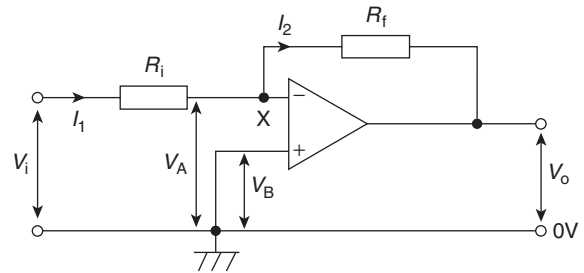
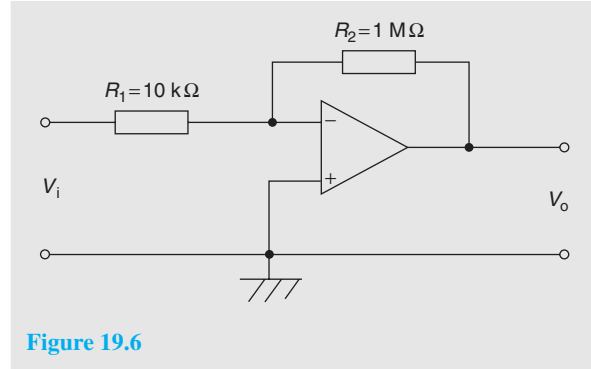

Figure 19.5
Figure 19.6
Operational amplifiers nearly always use **negative feedback**, obtained by feeding back some, or all, of the output to the inverting ($-$) input (as shown in Fig. 19.5 in the next section). The feedback produces an output voltage that opposes the one from which it is taken. This reduces the new output of the amplifier and the resulting closed-loop gain A is then less than the open-loop gain A_o . However, as a result, a wider range of voltages can be applied to the input for amplification. As long as $A_o \gg A$, negative feedback gives:
The basic circuit for an inverting amplifier is shown in Fig. 19.5 where the input voltage V_i (a.c. or d.c.) to be amplified is applied via resistor R_i to the inverting (–) terminal; the output voltage V_o is therefore in anti-phase with the input. The non-inverting (+) terminal is held at 0 V. Negative feedback is provided by the feedback resistor, R_f , feeding back a certain fraction of the output voltage to the inverting terminal.
- the inputs are both at the same potential if the op amp is not saturated, i.e. $V_A = V_B$ in Fig. 19.5
In Fig. 19.5, $V_B = 0$, hence $V_A = 0$ and point X is called a **virtual earth**. Thus,
Problem 4. In the inverting amplifier of Fig. 19.5, $R_i = 1 \text{ k}\Omega$ and $R_f = 2 \text{ k}\Omega$. Determine the output voltage when the input voltage is: (a) +0.4 V (b) –1.2 V.
Problem 5. The op amp shown in Fig. 19.6 has an input bias current of 100 nA at 20 °C. Calculate (a) the voltage gain, and (b) the output offset voltage due to the input bias current. (c) How can the effect of input bias current be minimised?
Comparing Fig. 19.6 with Fig. 19.5, gives $R_i = 10 \text{ k}\Omega$ and $R_f = 1 \text{ M}\Omega$
(c) The effect of input bias current can be minimised by ensuring that both inputs ‘see’ the same driving resistance. This means that **a resistance of value of 9.9 kΩ (from part (b)) should be placed between the non-inverting (+) terminal and earth in Fig. 19.6**
With reference to Fig. 19.5, and from equation (5),
4. In the inverting amplifier of Fig. 19.5 (on page 292), $R_i = 1.5 \text{ k}\Omega$ and $R_f = 2.5 \text{ k}\Omega$. Determine the output voltage when the input voltage is: (a) +0.6 V (b) -0.9 V [(a) -1.0 V (b) +1.5 V]